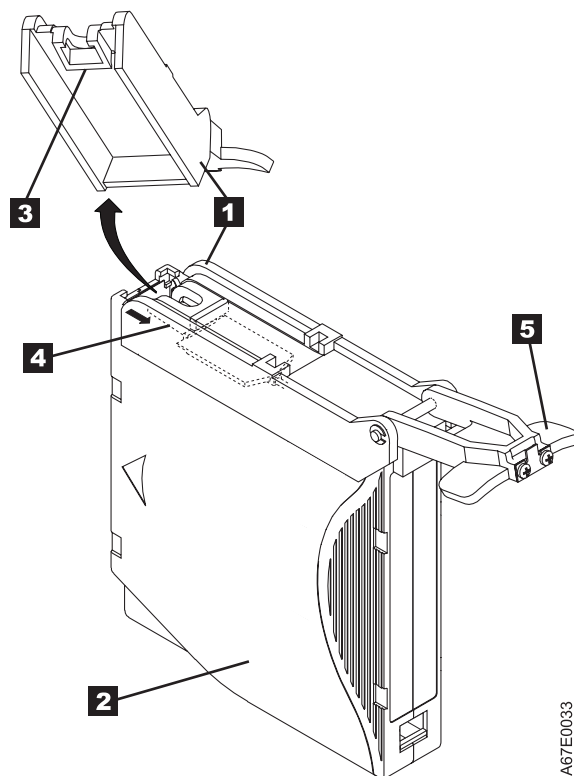

Figure 4-12. Attaching the leader pin attach tool to the cartridge. To hold the cartridge door open, hook the tool into the door and pull the tool back.
1. Attach the leader pin attach tool (**1** in Figure 4-12 on page 4-14) to the cartridge **2** so that the tool's hook **3** latches into the cartridge's door **4**. Pull the tool back to hold the door open, then slide the tool onto the cartridge. Open the tool's pivot arm **5**.